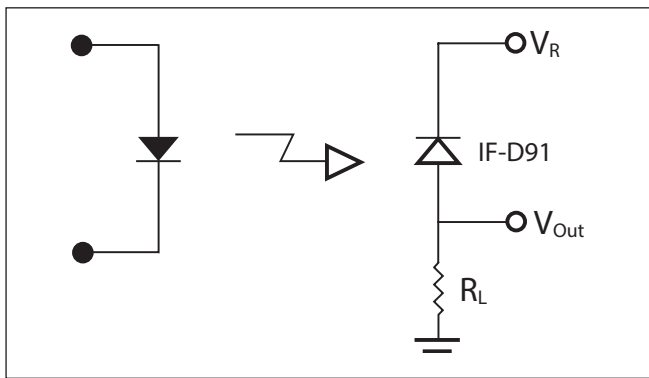
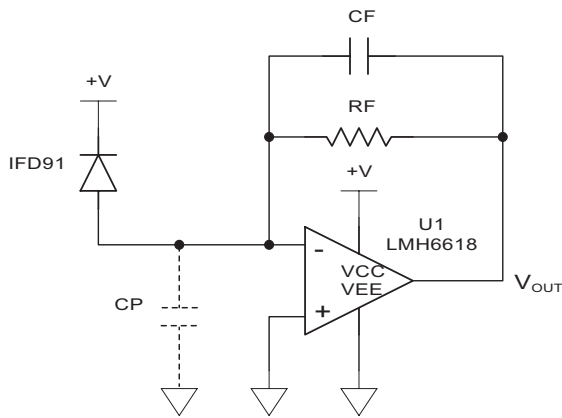

FIGURE 2. Circuit diagram for measuring rise and fall times.
FIGURE 5. Transimpedance amplifier
3. We could change the circuit from the basic resistor (Figure 2) to the transimpedance amplifier (Figure 5).
The circuit shown in Figure 2 can be used for low frequency applications. The output is given by $V_{OUT} = P_{IN} \times R \times R_L$. Where P_{IN} is the power into the IF-D91 and R is the responsivity at the wavelength used. The bandwidth is limited by the IF-D91 capacitance, the circuit capacitance and R_L ,
The circuit shown in Figure 5 can be used for higher frequency and higher gain applications. It uses an opamp configured as a transimpedance amplifier. This will convert the current output of the IF-D91 photodiode to a voltage. The output is inverted (output low with light input). The output is given by $V_{OUT} = -I_D \times R_F$. Where I_D is the current from the IF-D91. Capacitor C_F may be needed for stability to cancel the total capacitance connected to the negative input of the opamp. This capacitance is the sum of the IF-D91 capacitance, the opamp input capacitance and any stray parallel capacitance (C_P) from the circuit board. $C_T = C_{IFD91} + C_{U1} + C_P$. For stability the value of C_F should be at least
Continuing with the previous example, the power into the IF-D91 was 31.1 uW and the detector current, I_D , was 12.4 uA. The LMH6618 Op-amp shown in Figure 5 has an input capacitance of 1.5 pF and a large signal gain bandwidth product of 15 MHz. For $V_{OUT} = 5$ Volts the value of R_F would be 402 kOhms. We will assume the stray board capacitance is 1 pF giving a total capacitance of $C_T = 4.5$ pF. Using the above equation for C_F gives a value of 0.34 pF. Using the equation for bandwidth yields $BW = 1.1$ MHz which is plenty for this application.